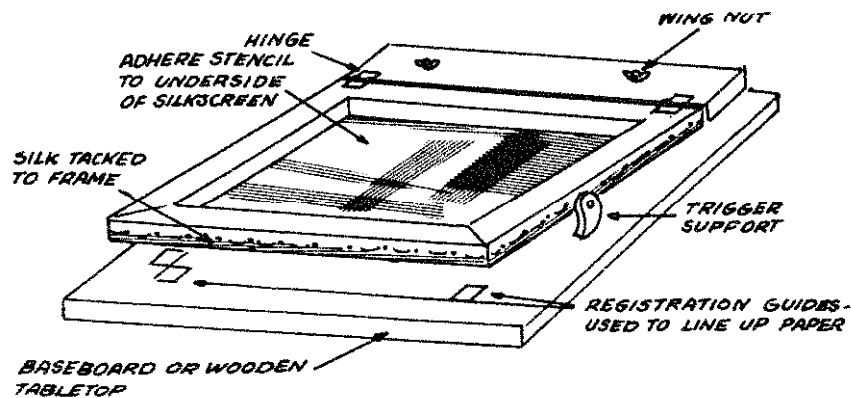

FIGURE 2. BOLT THE HINGED END OF THE FRAME TO A FLAT BASEBOARD OR WOODEN TABLE TOP.
2. Stretch the silk very tightly over the underside of the frame, using tacks every **2.5cm (1")**. Make sure that the threads of the silk run parallel with the edges of the frame, pull the silk over the outside bottom edges and tack the silk around the outside of the frame (see Figure 2).
5. The pieces to be printed can be registered (lined up so that the printed image appears in exactly the same place on each piece). Registration guides can be made of thin cardboard or several layers of tape (see Figure 2).